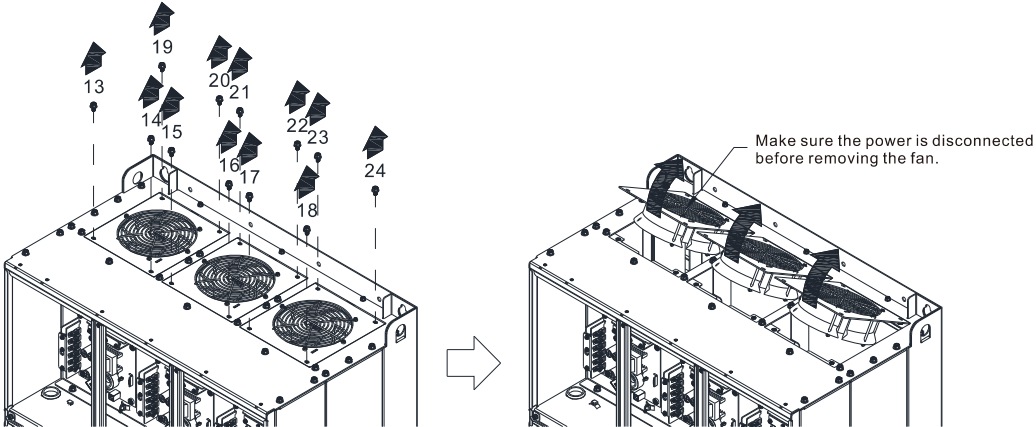

Figure 4
- 4. Loosen the screw 13-18 and remove the fan. Screw torque: 35-45 kg-cm / (30.3-39 lb-in.) / (2.9-3.8 Nm) (figure 4)